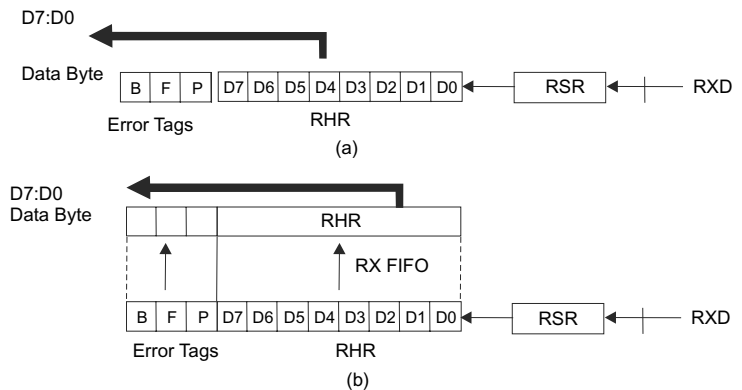

Fig. 9.96 Receiver (a) non-FIFO mode (b) FIFO mode
The receiver is used for serial-to-parallel conversion and receives data from serial port to CPU. This has received (RX) FIFO and Receive Shift Register (RSR). The receiver can be operated in non-FIFO and FIFO mode as shown in Figure 9.96. The incoming data is received in the receive shift register (RSR). Then the received data is queued in the RX FIFO. The error tags are associated with data in RHR which can be read through LSR. After that, Receive Holding Register (RHR) will be read and data is outputted from the receiver.